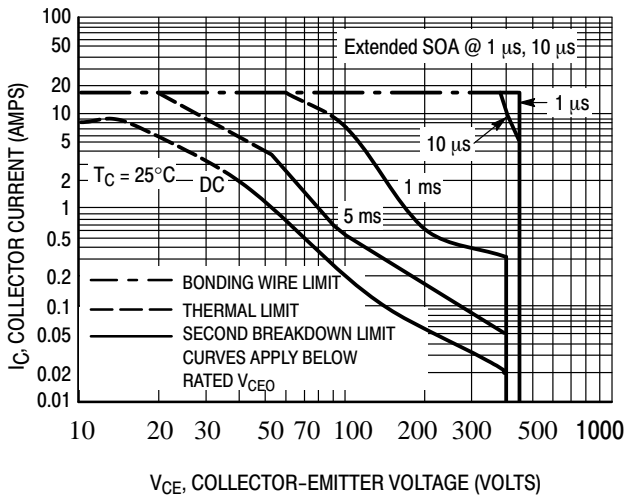
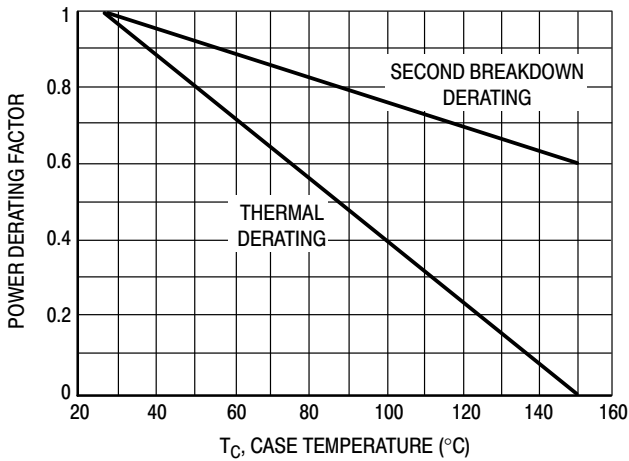

Figure 6. Maximum Forward Bias Safe Operating Area
Figure 8. Forward Bias Power Derating
| Second Breakdown Collector Current with Base Forward Biased | I _{S/b} | See Figure 6 | | | |
The data of Figure 6 is based on $T_C = 25^\circ\text{C}$; $T_{J(pk)}$ is variable depending on power level. Second breakdown pulse limits are valid for duty cycles to 10% but must be derated when $T_C \geq 25^\circ\text{C}$. Second breakdown limitations do not derate the same as thermal limitations. Allowable current at the voltages shown on Figure 6 may be found at any case temperature by using the appropriate curve on Figure 8.
The sustaining or active region voltage requirements in switching applications occur during turn-on and turn-off. If the load contains a significant capacitive component, high current and voltage can exist simultaneously during turn-on and the pulsed forward bias SOA curves (Figure 6) are the proper design limits.
2. The turn-on time does not exceed 10 μ s (see standard pulsed forward SOA curves in Figure 6).